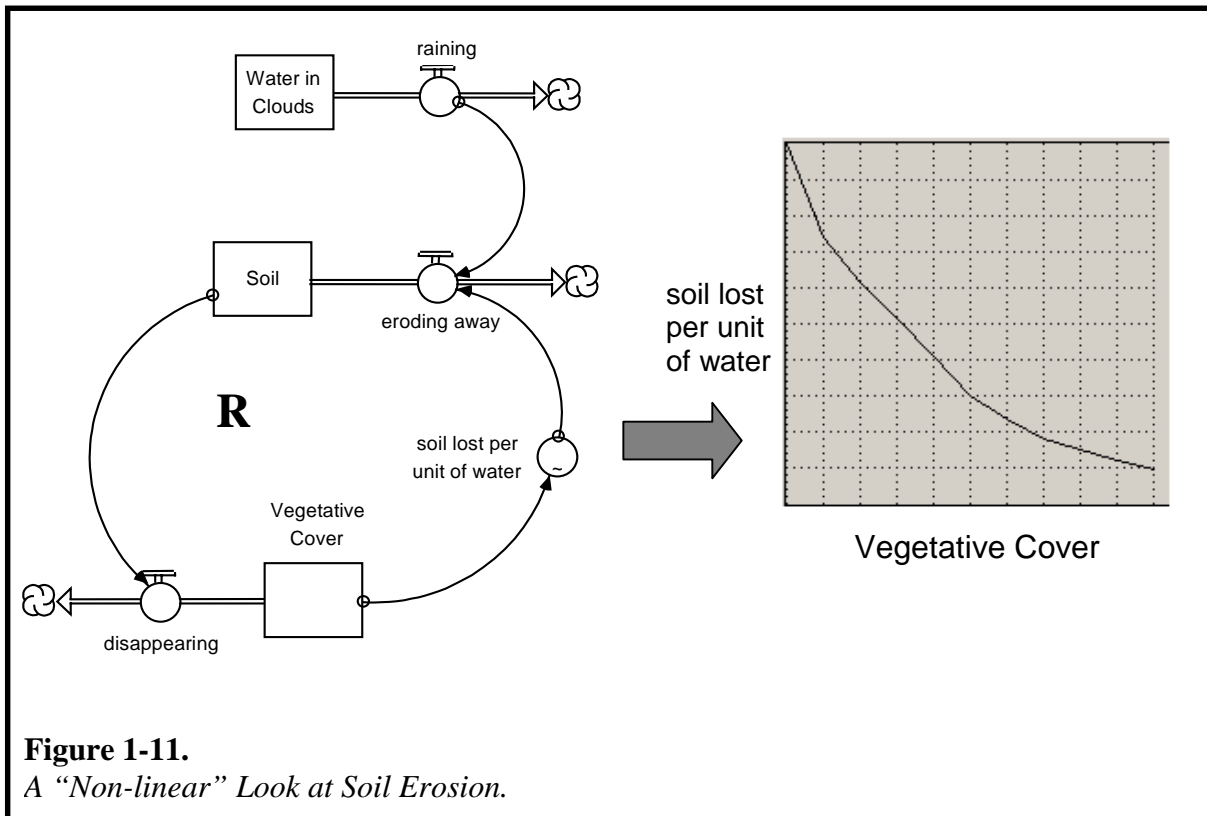

Figure 1-11.
The assumption of “linearity” means that each causal factor impacts the “effect” by a fixed, proportional magnitude. In terms of the Universal Soil Loss equation, for example, someone might collect data for a particular ecosystem and then statistically estimate that, say, an 8% increase in rainfall (R) results in a 4% increase in soil loss per unit of area (A). We could then form the following equation to express the relationship: $A = 0.5R$. You probably immediately recognized it as your old friend...the equation of a straight line (i.e., $Y = mX + b$). In a linear equation, a given change in the “X” variable results in a fixed corresponding change in the “Y” variable. The variable expressing the amount of the corresponding change is “m,” the *slope* of the straight line relating the two variables. Let’s contrast the “linear” view of the relationship between rainfall and soil loss, with a “non-linear” view as illustrated in Figure 1-11.
As the wire running from *raining* to *eroding away* shows, erosion is “driven by” rainfall. The equation for *eroding away* is *raining* (an amount of water per time) times *soil lost per unit of water*. Notice the “~” on the face of the variable named *soil lost per unit of water*. It designates the variable as what’s called a “graphical function.” (I will discuss the graphical function in more detail in Chapter 6). The function is drawn as a graph on the right side of Figure 1-11. The